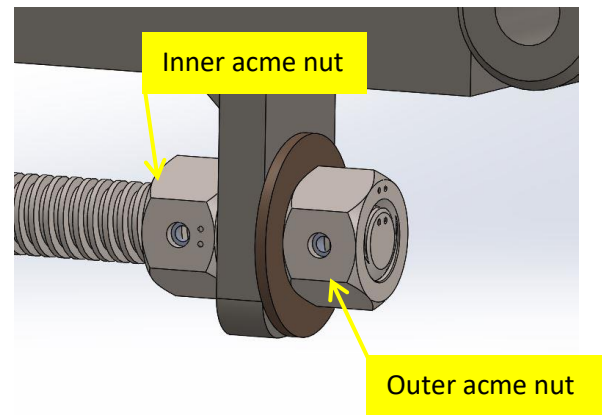

Figure 9
11. Thread the inner acme nut onto the acme rod with the two (2) punch marks on the side facing toward the end of the rod and thread the rod through the guide hole. Place the bronze washer onto the rod and thread the remaining acme nut onto the rod with the two (2) punch marks on end face of the nut facing outward. Line up the holes in the rod and the acme nuts and reinstall the spring pins. **Figure 9**